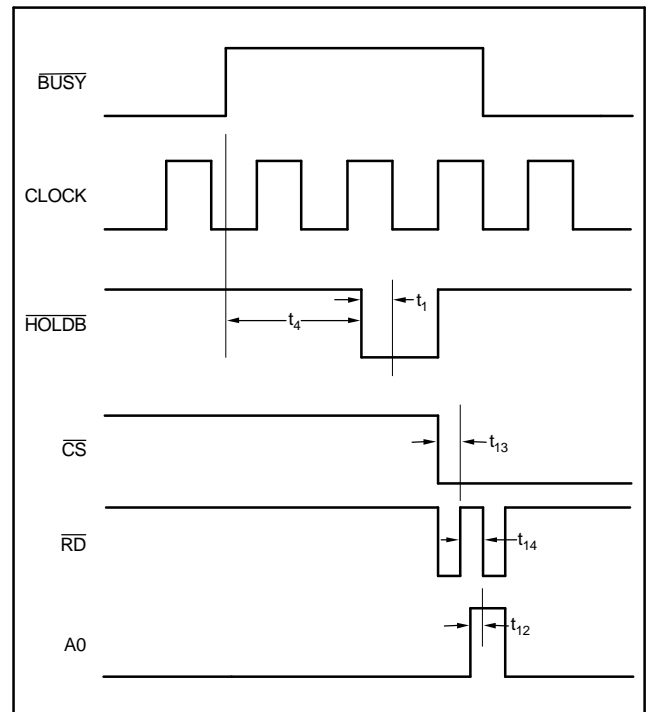

**Figure 27. Timing of One Conversion Cycle**
**BUSY**—Busy goes low when the internal A/D converters start a new conversion. It stays low as long as the conversion is in progress (see Figure 27, 13 clock-cycles,  $t_{10}$ ) and rises again after the data is latched to the output register. With Busy going high, the new data can be read. It takes at least 16 clock cycles (see Figure 27,  $t_{11}$ ) to complete conversion.
Once a particular hold signal goes low, further impulses of this hold signal are ignored until the conversion is finished or the part is reset. When the conversion is finished ( $\overline{\text{BUSY}}$  signal goes high), the sampling switches will close and sample the selected channel. The start of the next conversion must be delayed to allow the input capacitor of the ADS7864 to be fully charged. This delay time depends on the driving amplifier, but should be at least 175ns (see Figure 27,  $t_4$ ).
The ADS7864 can also convert one channel continuously, as it is shown in Figure 27 with channel B. Therefore,  $\overline{\text{HOLDA}}$  and  $\overline{\text{HOLDC}}$  are kept high all the time. To gain acquisition time, the falling edge of  $\overline{\text{HOLDB}}$  takes place just before the falling edge of clock. One conversion requires 16 clock cycles. Here, data is read after the next conversion is initiated by  $\overline{\text{HOLDB}}$ . To read data from channel B, A1 is set high and A2 is low. As A0 is low during the first reading ( $\text{A2 A1 A0} = 010$ ) data B0 is put to the output. Before the second  $\overline{\text{RD}}$ , A0 switches high ( $\text{A2 A1 A0} = 011$ ) so data from channel B1 is read.
With (A2 A1 A0) = 000 to 101 a particular channel can directly be addressed (see Table 3 and Figure 27). The channel address should be set at least 10ns (see Figure 28,  $t_{12}$ ) before the falling edge of  $\overline{RD}$  and should not change as long as  $\overline{RD}$  is low.